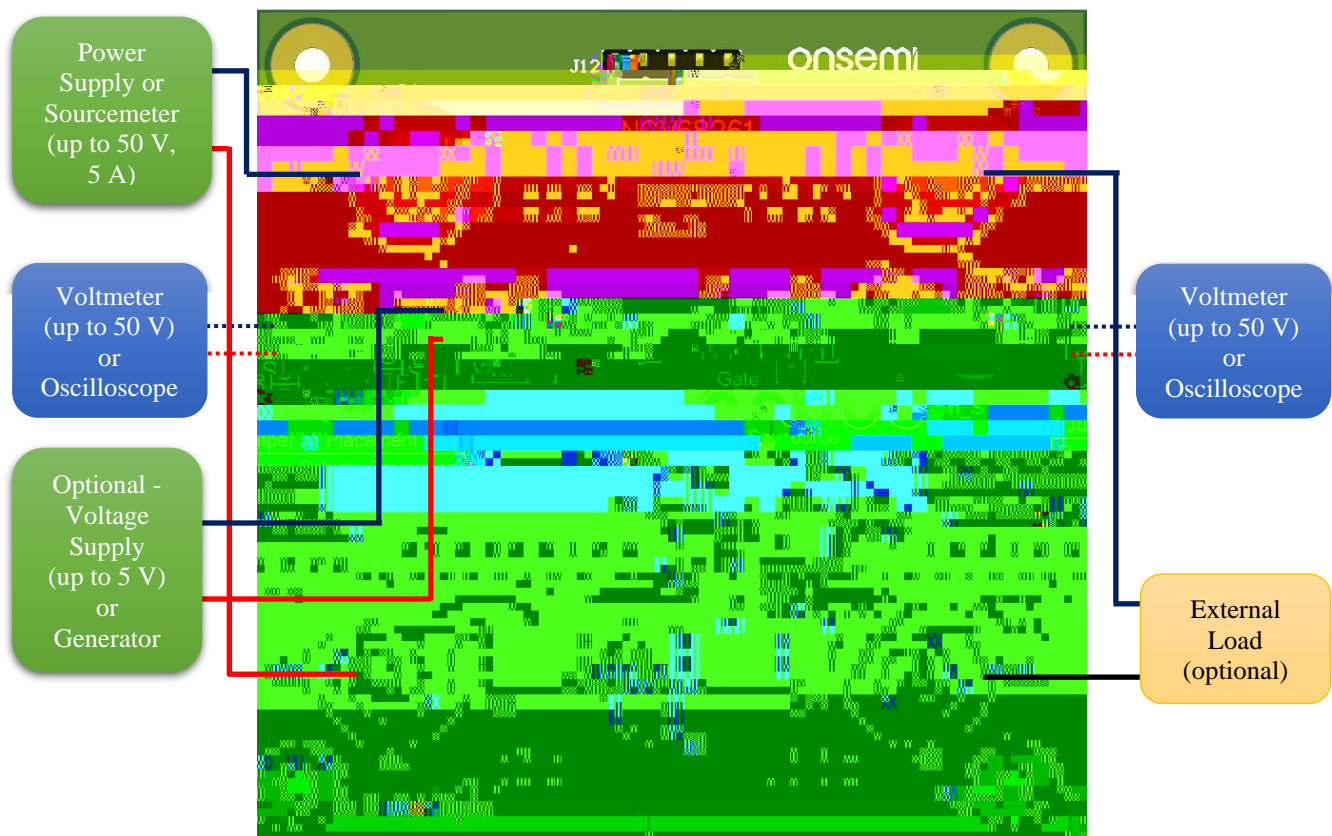

Figure 1. Test setup
1. Connect the test setup as shown in Figure 1.